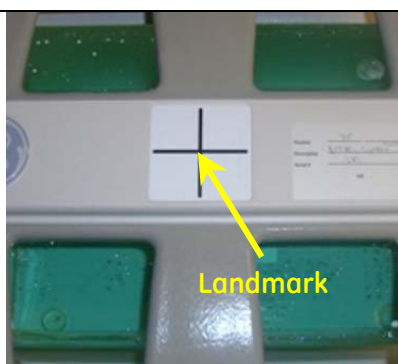

Figure 3.2.4-6
6. Landmark the coil at the cross mark as shown in Figure 3.2.4-6 and advance to scan.